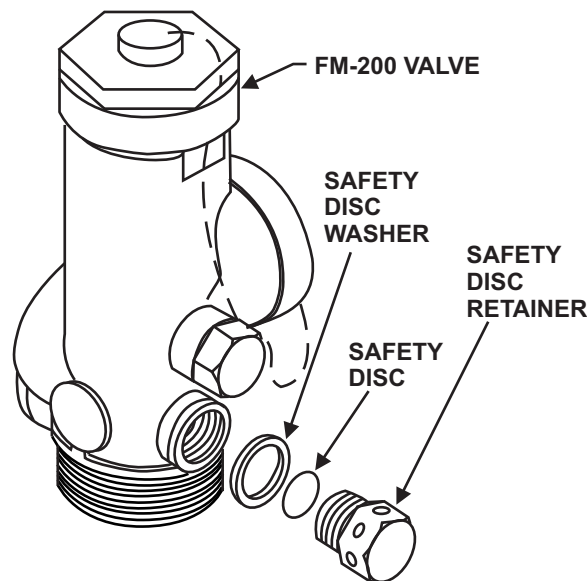

Figure 6-4. Safety Disc Replacement
Note: Refer to Figure 6-4.
1. Remove the safety disc retainer including safety disc and safety disc washer from the cylinder body. See Figure 6-4. Discard the safety disc and washer.